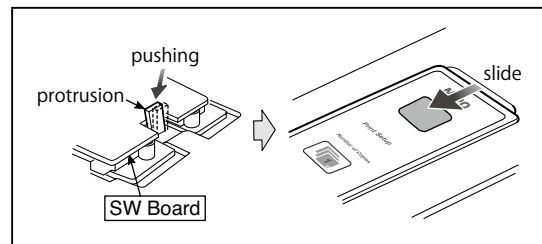

Fig.13
1. Remove the SW Panel shown in the figure13.